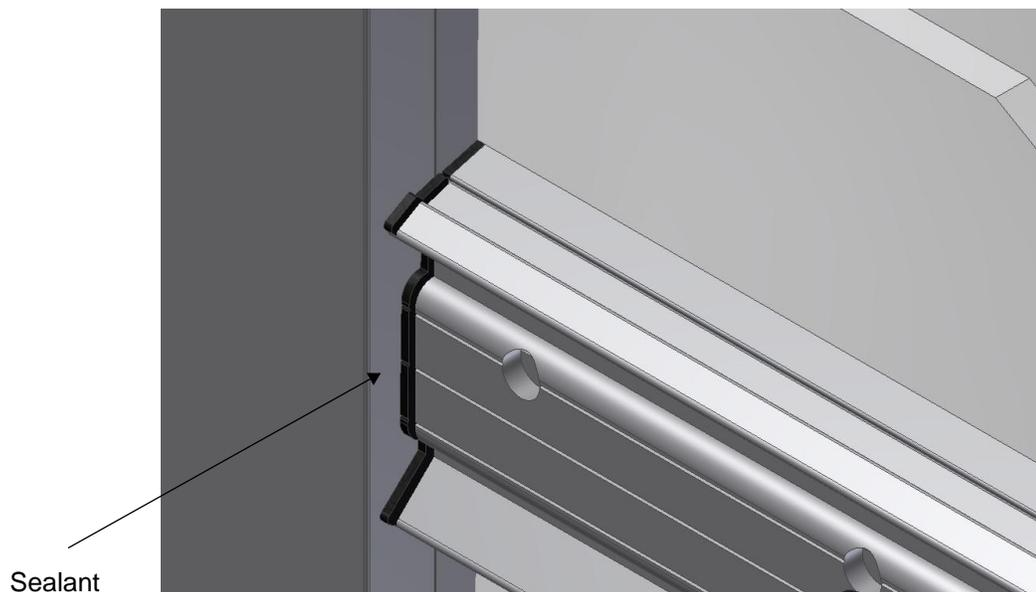

Figure 25: Seal the joint between the horizontal pressure plate and vertical snap-on cover.
- Seal the joint between the horizontal pressure plate and the vertical snap-on cover, and tool the sealant into the void, as shown in Figure 25.